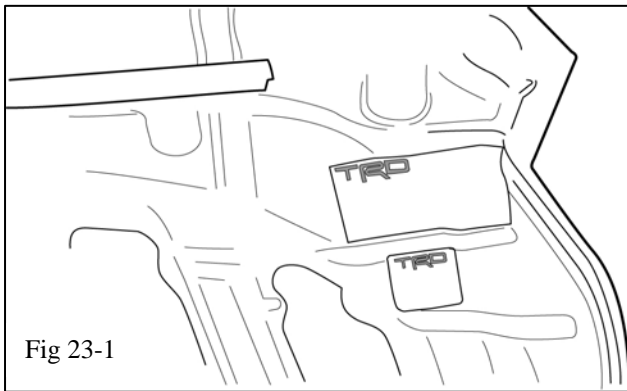

Fig 23-1
- (h) Place the new vacuum and belt routing label (L8) on an open area under the hood. **DO NOT cover the original vacuum hose label.** Place the CARB OE Emissions label (L9) near the vacuum and belt routing label (Fig 23-1). Clean the area of any dirt and contaminants before adhering the labels.